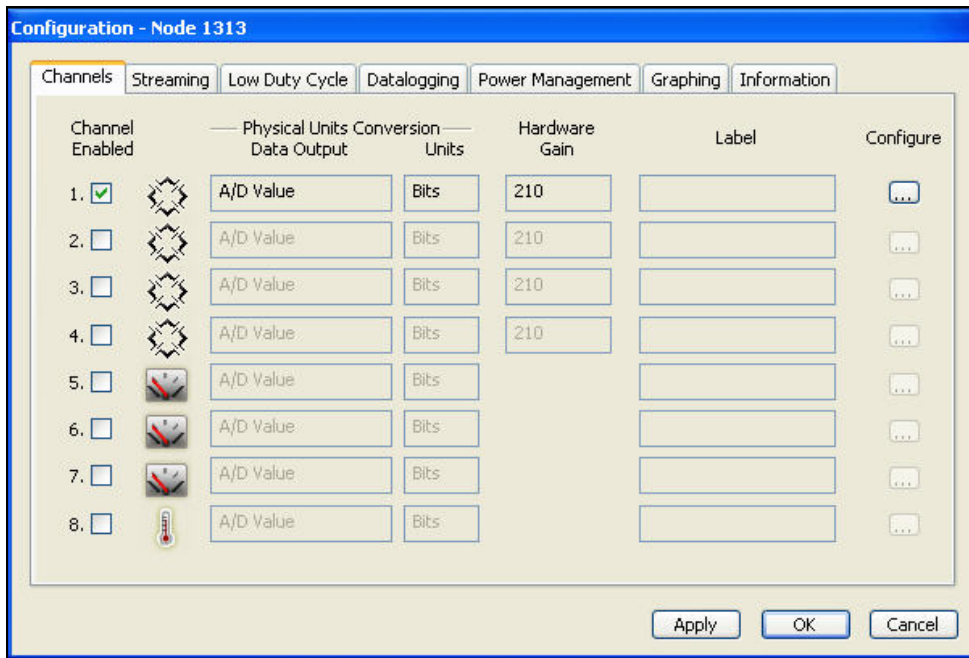

Figure 8
- Click **Configure**. The **Configuration** window will appear. See Figure 8.